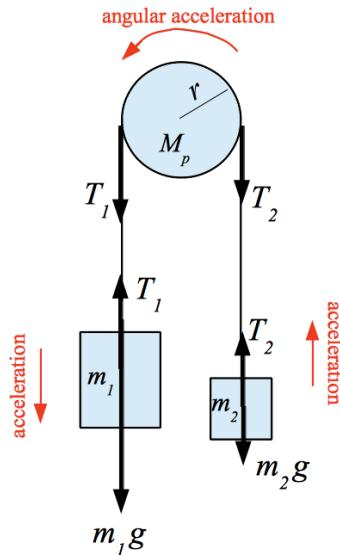

Figure 1: Setup for the Atwood machine using a smart pulley, and sketch of Newton's Second Law
1. Set up a smart pulley as shown in the Figure 1. There will be one smart pulley setup at one of the tables before the lab starts for reference. Be sure to put a cushion on the floor to prevent damage to the floor and/or the suspended masses.